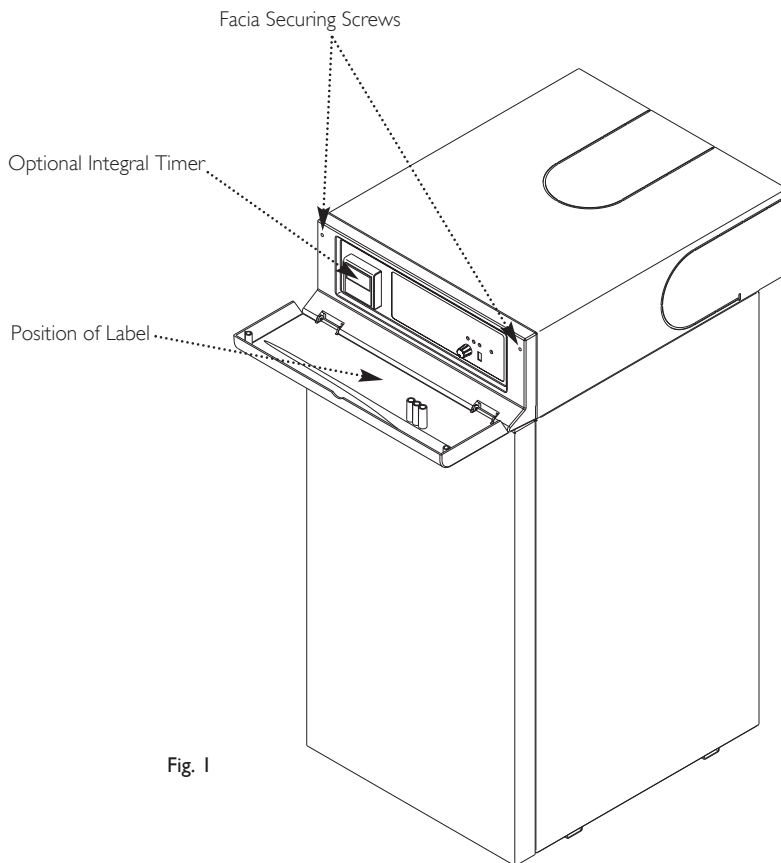

Fig. 1
5. A label giving details of the model, serial number and Gas Council number is situated on the rear of the drop down facia panel (Fig. 1).